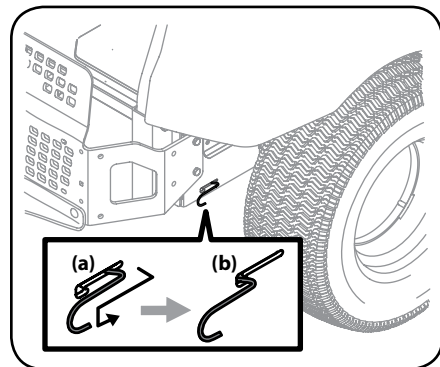

Figure 4-6
1. From the rear of the tractor, just inside the two rear tires, locate the transmission bypass rods. Refer to Figure 4-6.
- Engage the transmission bypass rods, one on each side of the tractor, to move the tractor manually without starting it. Engage the bypass rods by pulling each one back (a) and hooking it into the slot (b) to lock it into place. See Figure 4-6.
- Disengage the bypass rods by reversing steps (a) and (b) after moving the tractor. See Figure 4-6.